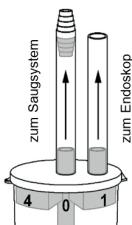

Abb. 1
- Connect the hose from the middle connection of the trap to the suction system (Fig. 1).
- Connect the outer connector to the endoscope (Fig. 1).